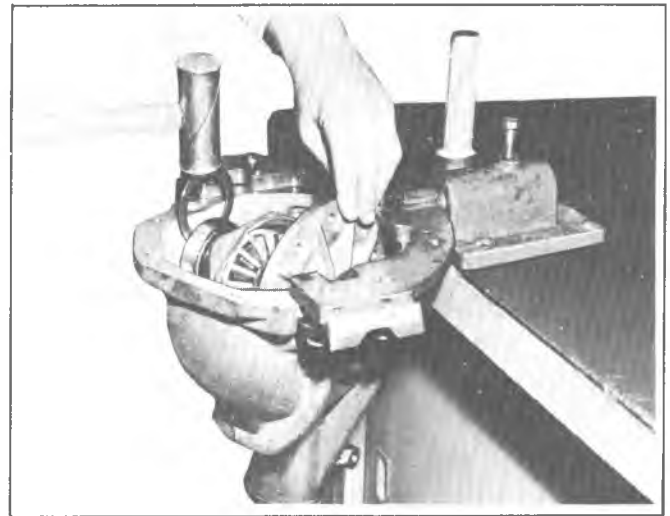

Fig. 12C--Installing Differential Shim
15. Install the selected shim between the service spacer and bearing, using a soft face hammer. See figure 12C.